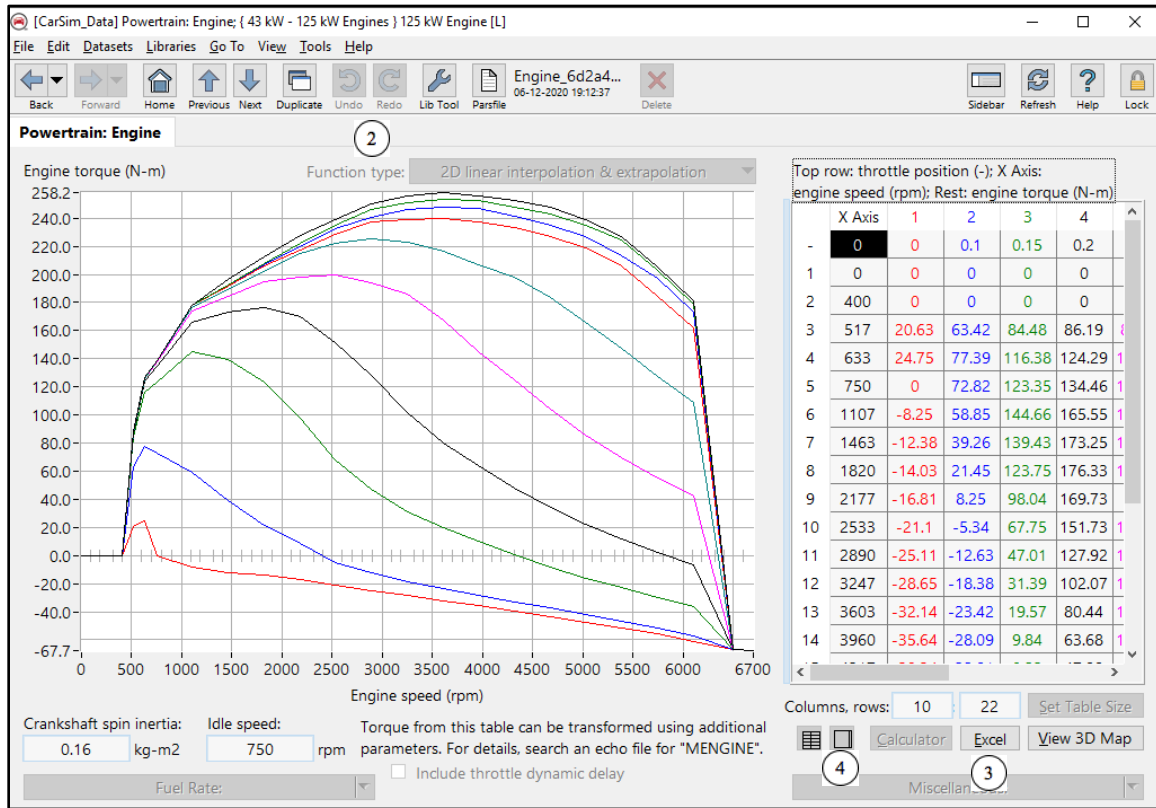

Figure 3: VS Browser map data for a 125 kW engine
Hatchback 125 kW Engine Dataset, shown in (Figure 3). The configurable function specifies the table type as *2D linear interpolation & extrapolation* (2).